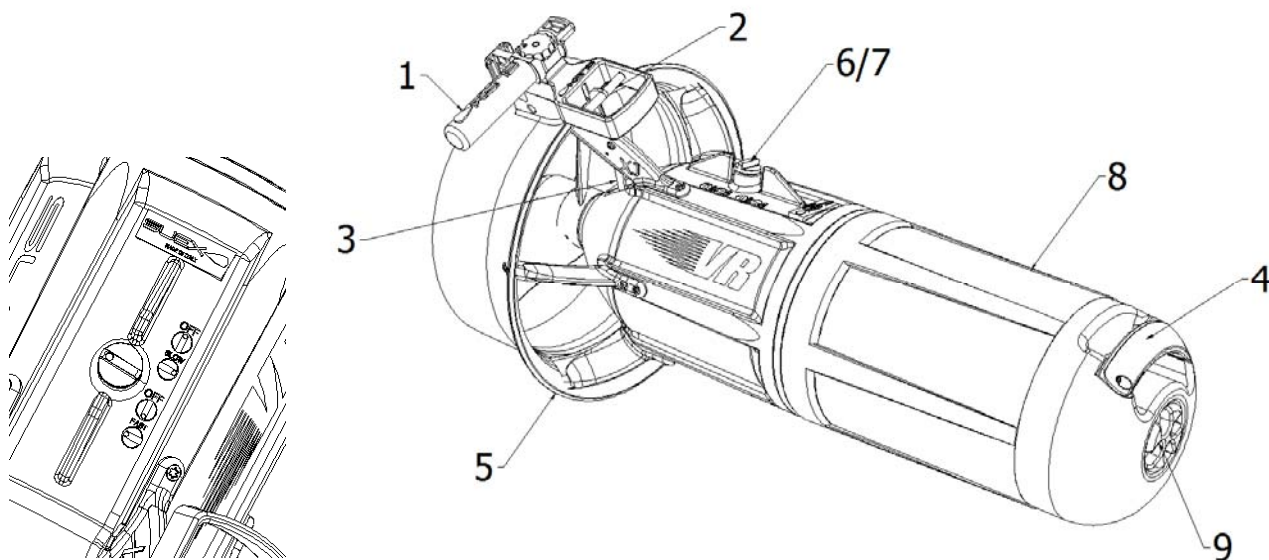

Figure 1
The ADV consists of a perfectly watertight, streamlined, hollow body, see figure 1, inside which the electric motor, rechargeable batteries and speed-reduction gear are housed. On the outside, two manoeuvring handles (1) are found at the rear, one of which has an integrated trigger (2) to control propeller rotation by means of a magnetic reed switch (3). At the front, a handle in synthetic material (4) is used for gripping and carrying the vehicle. The propeller (10) is located at the rear end and is protected by a surrounding circular strip which constitutes the flow conveyor (5). The main switch (6) for turning the power on and off and the speed regulator knob (7) are also found at the rear. In front is situated the head cap (8), by opening it we can access to the battery compartment, the locking wheel (9) is inserted in the nose.
Turn the front hand wheel (9) counter-clockwise. Rotating the hand wheel, the nose (8) (see fig. 1) start to lift. Continue rotating until the nose detaches from the main body. Remove the nose.
5 CORRECT USE (SEE FIG. 1)
Turn the switch (6) (see fig.1) choosing the speed.
Hold the ADV handle (1) (see fig.1). If a tow cord is used clip it to the towing harness.